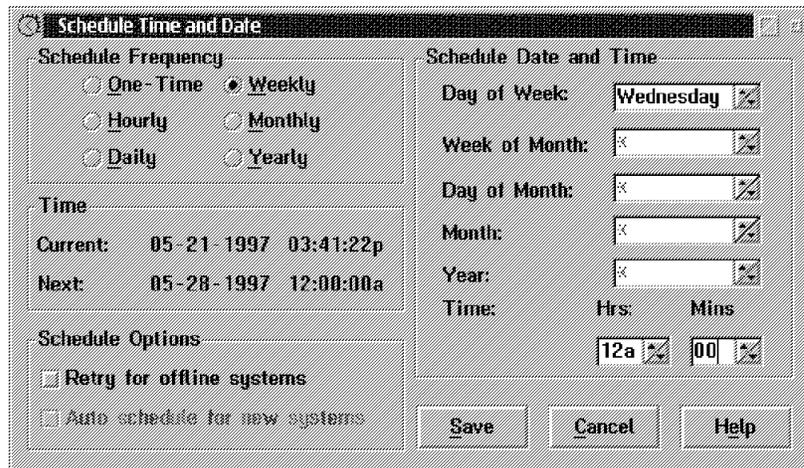

Figure 93. Defining the Scheduler
8. Fill in required fields in following window (see Figure 93 on page 282). IBM recommends you synchronize your RAID 1 and RAID 5 arrays every week. To make sure that the performance impact of this operation is minimal, the synchronization should be scheduled overnight.